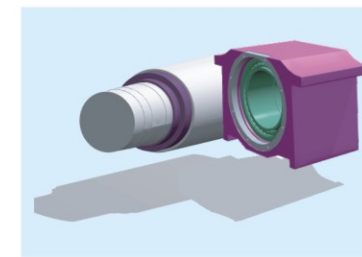

Fig. 7-11 : Mounting the labyrinth ring, pushing the assembled chock onto the roll neck
1. Push the labyrinth ring you have heated in an oil bath onto the roll neck together with the O-ring. While the labyrinth ring cools down, it must be pressed tightly against the roll body face. Push the assembled chock onto the roll neck. (Fig.7-11)